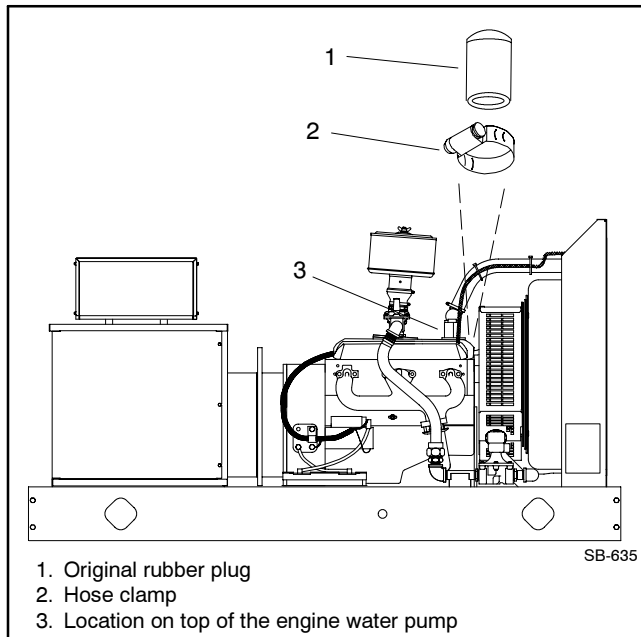

Figure 1 Original Rubber Plug on Engine Water Pump (50 kW Generator Set shown)
The original rubber plug mounts on an unused engine water pump pipe fitting and is secured with a hose clamp. See Figure 1 for the rubber plug location.
- 2.3 Remove the hose clamp from the rubber plug. See Figure 1 for location of the rubber plug.